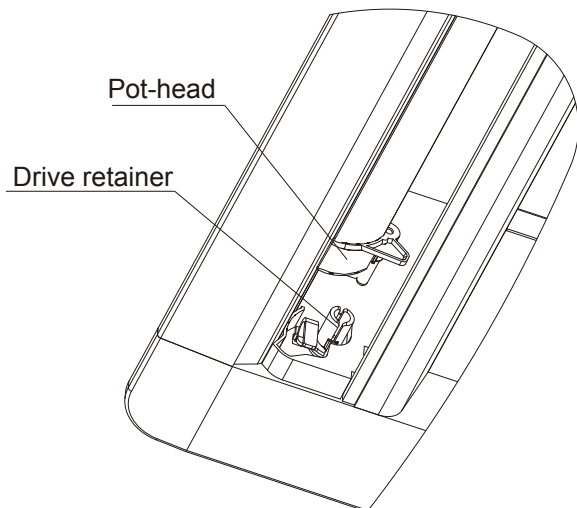

Figure 3.20
- (2) Install the air deflector. Repeat the steps used to remove the air deflector (1) in reverse order to install the air deflector. As shown in Figure 3-20.